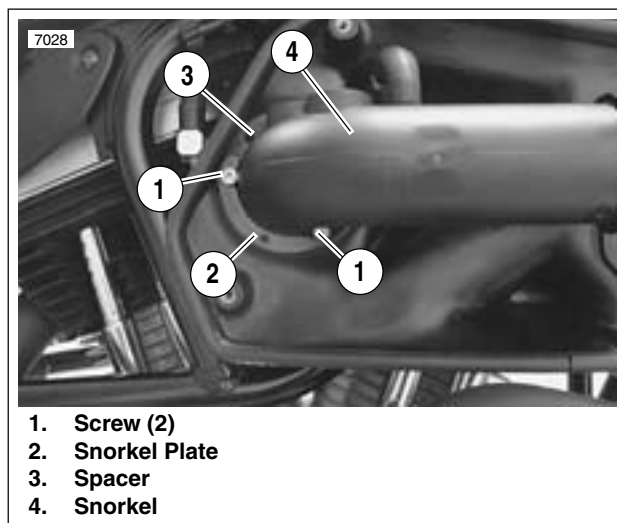

Figure 4-24. Snorkel Plate
- Detach breather tee (4) from rear breather hose (1).
- Detach front breather hose (3) from front breather bolt (2).
- See Figure 4-24. Remove two screws (1) and snorkel plate (2). Remove snorkel (4).
4. See Figure 4-24. Install snorkel.
- a. Apply LOCTITE THREADLOCKER 243 (blue) to screws (1).
- b. Align snorkel (4) on spacer (3) and spacer screw.
- c. Attach snorkel to backplate assembly using snorkel plate (2) and two screws (1). Tighten to 6-8 ft-lbs (8-11 Nm).